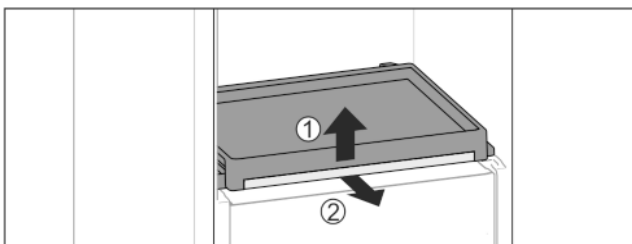

Fig. 36
- ▶ To remove the pull-out board with glass panel: Gently lift the glass panel at the front Fig. 36 (1) and pull out to the front Fig. 36 (2).